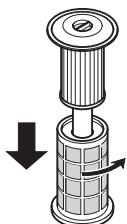

Fig. 21
6. Turn the central filter protective screen anti-clockwise and pull it down from the central laminar filter (Fig. 21).